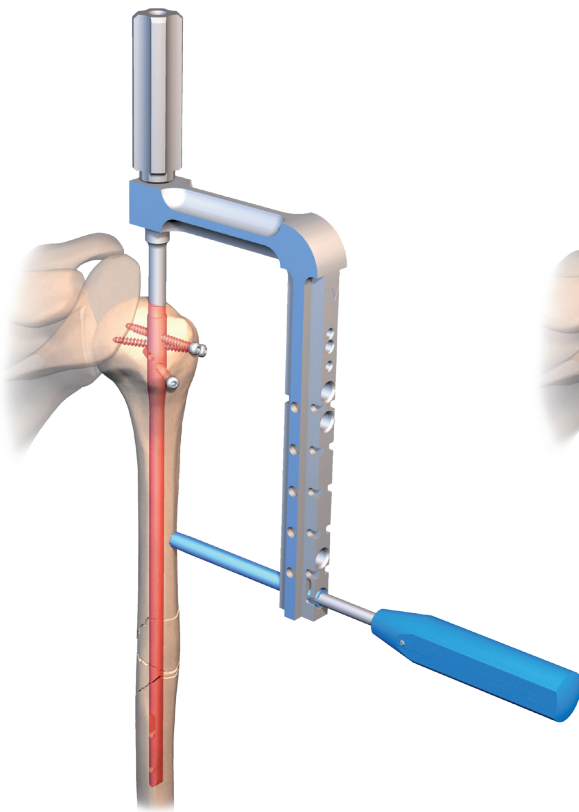

fig. 11
- Insert the blunt tip eyelet handle (**intermediary obturator ref. 253 676**) into the aiming sleeve (**blue with notch ref. 257 010 or ref. 253 679**) until contact is made with the humerus (**fig.11**).